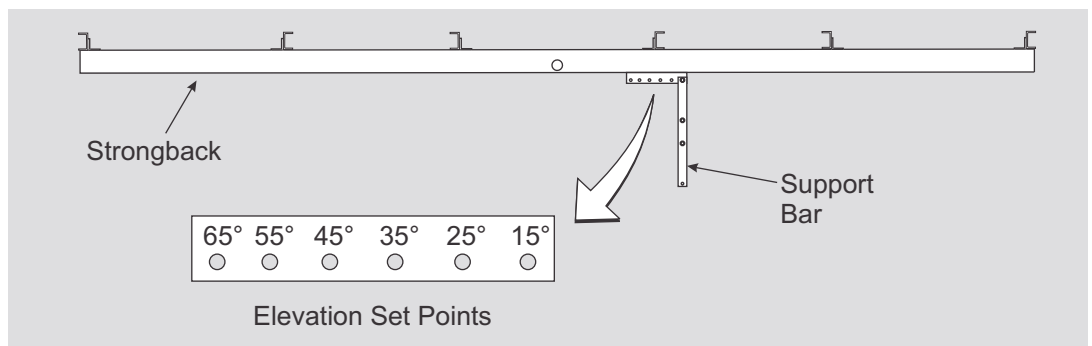

Figure 6-2: Setting the Tilt Angle
- B. Tilt the rack to the desired elevation angle (15°, 25°, 35°, 45°, 55°, or 65°) and re-attach the Support Bar to the Strongback placing the 3/8" or 1/2" hardware in the appropriate hole matching the desired elevation. **Torque at 32-34 ft.-lbs. for 3/8" hardware or 72-80 ft.-lbs. for 1/2" hardware.** (See Figure 6-2)